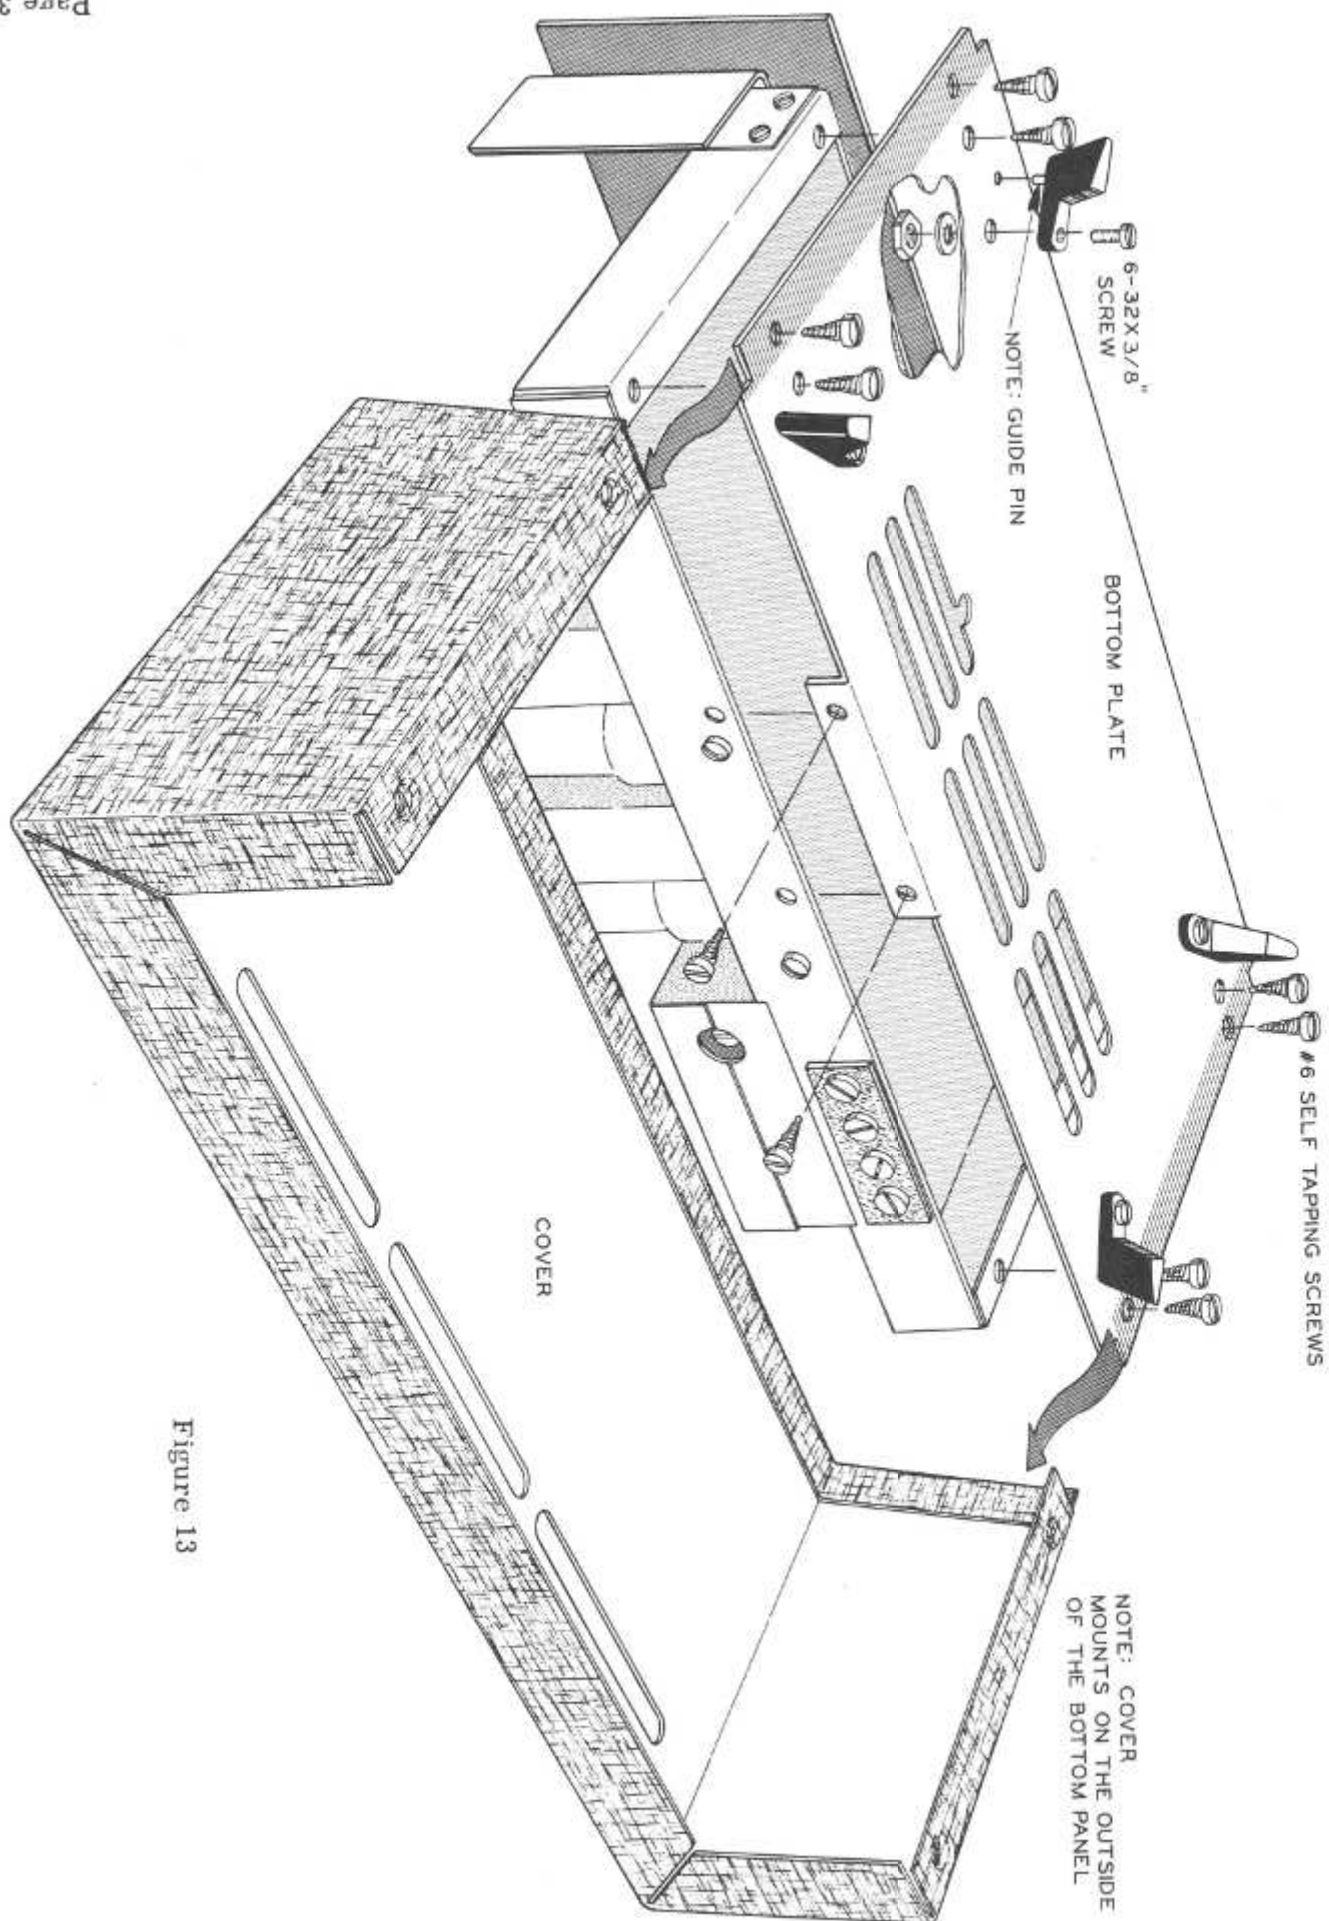

Figure 13
- () Refer to Figure 13 on Page 35 and mount the four plastic feet to the bottom plate, using in each case a 6-32 screw, nut and lockwasher. Observe in each corner that the innermost hole is the one that is used for the 6-32 screw. At an angle toward the corner from this hole is a smaller hole. This one is used for the guide pin on each foot.